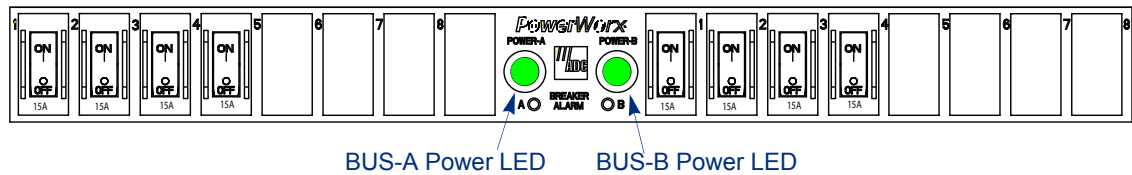

Figure 40. BUS-A/B Power-on LED indicators, circuit breaker
5. Verify the Power -A and Power -B LEDs on the circuit breaker are solid green as shown in Figure 40..